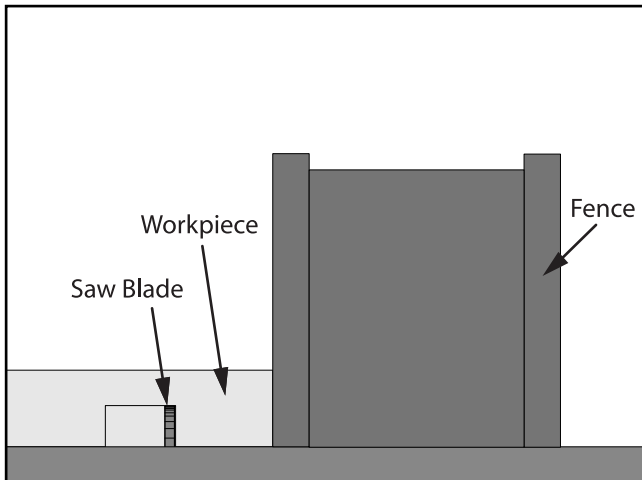

Figure 47. Single-blade dado cut.
3. Align the blade to cut one of the dado sides as shown in **Figure 47**.